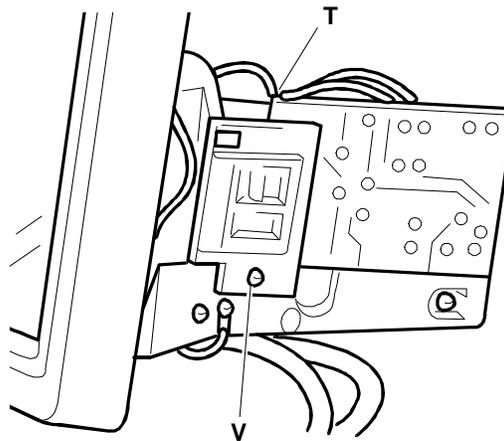

Fig. 35-8 Removing the ON/OFF Switch and Contrast Assembly
10. Remove screw (V) shown in figure 35-8.